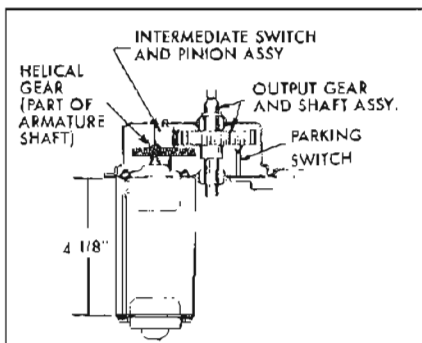
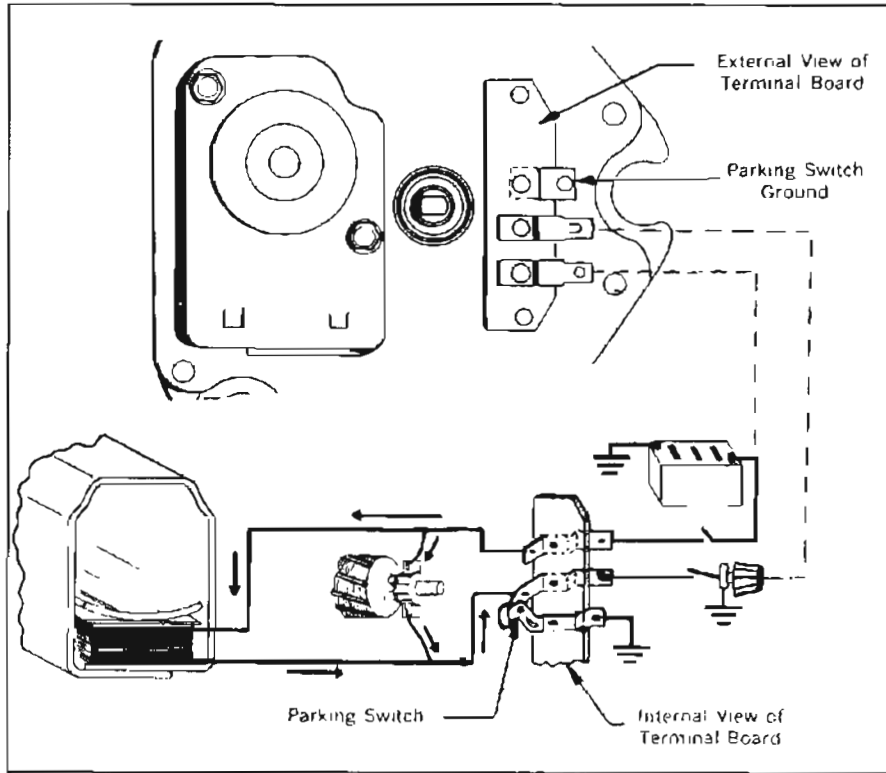

Figure 10-99—Typical View of Gear Train
Figure 10-101—Single Speed Wiper Wiring Diagram
The gear train consists of a helical gear at the end of an armature shaft. The helical gear drives an intermediate gear and pinion assembly, the pinion of which drives an output gear and shaft assembly. See Figure 10-99. The crank arm is attached to the shaft of the output gear and drives the two wiper transmission through connecting link arms. See Figure 10-129 or 131.
a park switch control the starting and stopping of the wiper. The switch mounted on the dash controls starting the wiper. The park switch, which is located in the wiper gear box (Figure 10-99), controls stopping the wiper. The operation of the park switch is explained in the following paragraph. (Refer to the wiring diagram in Figure 10-101).
(1) Make sure wiring harness is properly attached to wiper terminals and dash switch. See Figure 10-101.
(2) Make sure wiper ground strap is properly connected to wiper and car body.
(3) Make sure switch is mounted securely in dash.
(4) Check fuse.